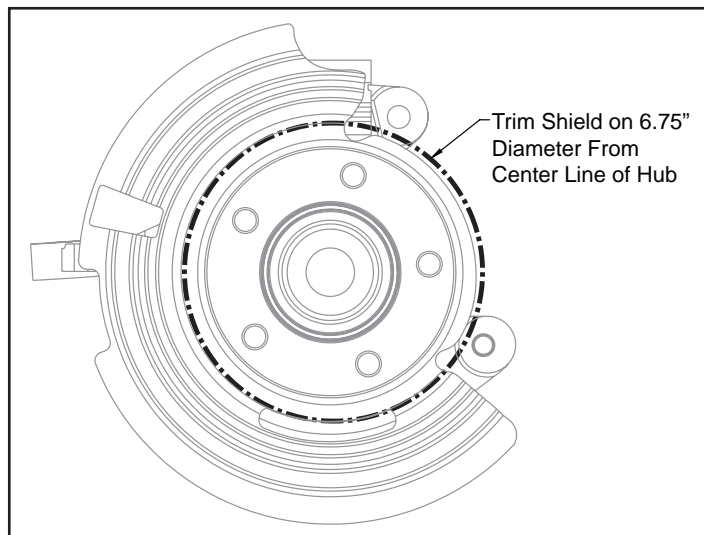

Figure 3. Dust Shield Modification
- The front dust shield needs to be modified (cut), as shown by the black dotted line in Figure 3, to clear the new Wilwood rotor.